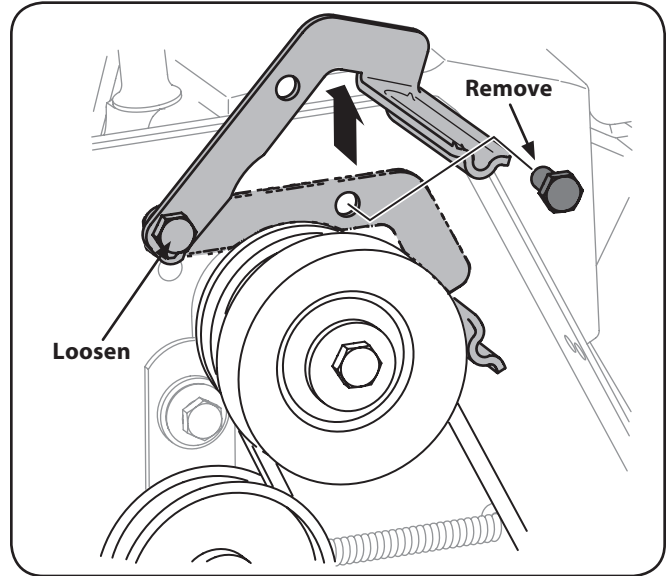
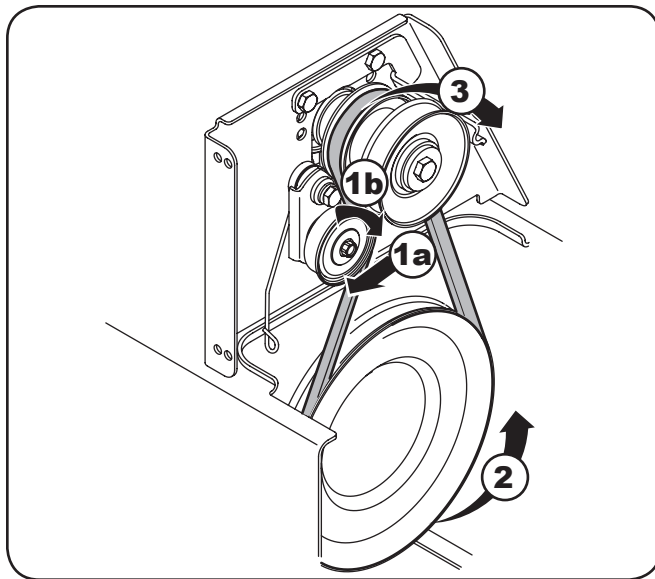

Figure 7-3
Figure 7-8
3. Loosen the bolt shown in Fig. 7-3 securing the belt keeper bracket and remove the other bolt. Push the belt keeper bracket up off the engine pulley. See Fig. 7-3.
1. Use a wrench to rotate the idler pulley away from the backside of the drive belt and pivot the belt keeper up (see Fig. 7-3) to relieve the tension and slip the drive belt off the idler pulley. Carefully release the idler pulley. See Fig. 7-8.